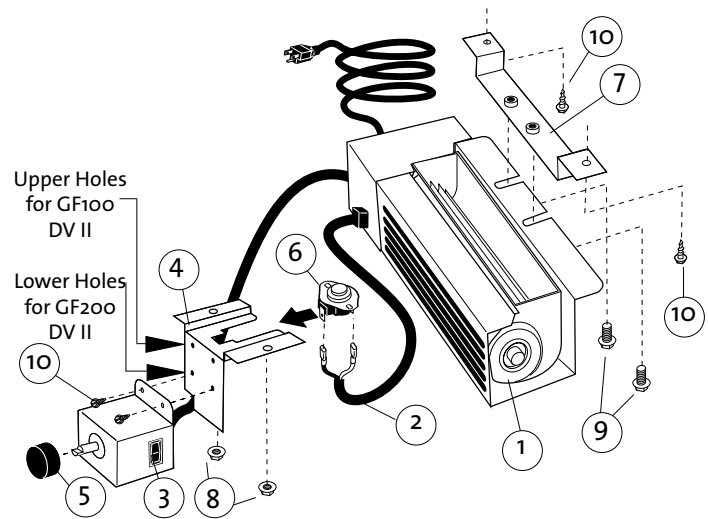

Figure 35. Blower Kit Components
1. **Unpack and check the contents** of the blower kit. Contact your dealer if any damage is evident or parts are missing. See fig. 35.
2. **Attach the Control Box to the Snapstat Bracket** using two #8 x 1/2" sheet metal screws. As shown in fig. 35, use the pair of mounting holes appropriate for your stove.
5. Attach either Snapstat wire connector to either Snapstat terminal. See figs.35 and 37.